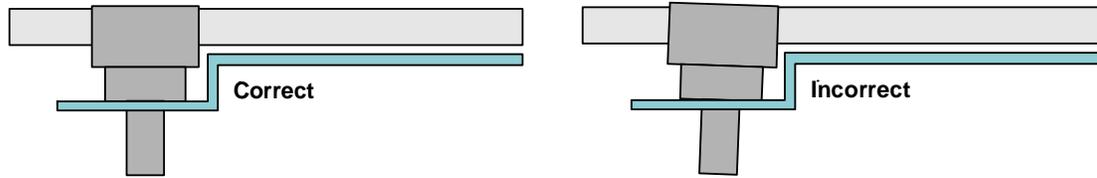

Figure 2: Actuator alignment
5. Adjust the sub-plate on the faceplate until the switch actuator is perpendicular to the faceplate and does not bind. The switch actuator should travel freely when pressed and released. Ensure that when the switch is pressed down, it is not skewed at an angle to the faceplate. Refer to Figure 2 below (Not applicable to Tighten down the stand-offs and the hex nuts on the speaker. **(Do not over-tighten).**)